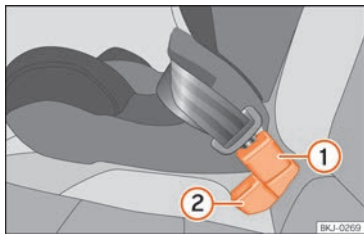

Fig. 43 Position of the belt buckle on the rear seat
- Place the middle seat's belt buckle >>> Fig. 43
① behind the side seat's belt buckle >>> Fig. 43 ②.
- Plug the middle seat's seat belt into the middle seat's belt buckle >>> Fig. 43 ① and make sure it clicks in place.
- For seat belts to be correctly fitted, the buckles must not be twisted >>> Fig. 43.